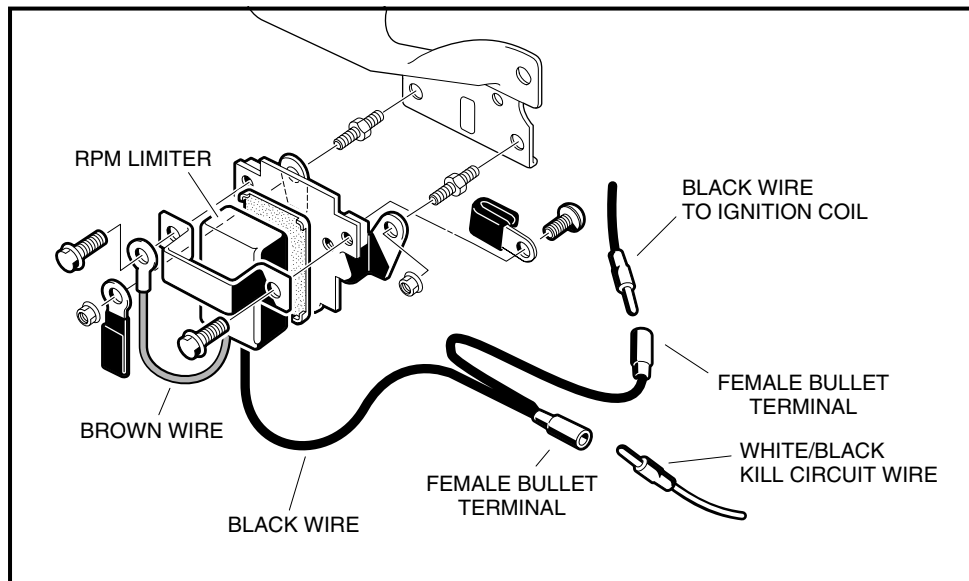

Figure 11-42 RPM Limiter
2. Disconnect both of the bullet terminals (**Figure 11-42, Page 11-36**).
- 2.1. Disconnect both of the bullet terminals at the RPM limiter (**Figure 11-42, Page 11-36**). Place the red (+) probe of the meter on the male bullet terminal of the wire connecting to the ignition coil under the fan housing, and place the black (-) probe on a clean unpainted surface of the engine or frame (**Figure 11-43, Page 11-37**).